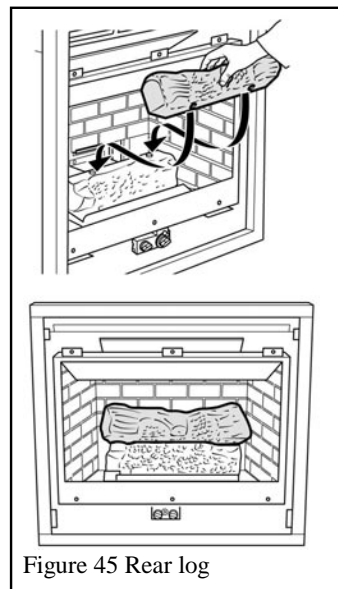

Figure 45 Rear log
3. Place the rear log in position locating the two pins in the top of wedge into the holes in the rear log. See figure 45.